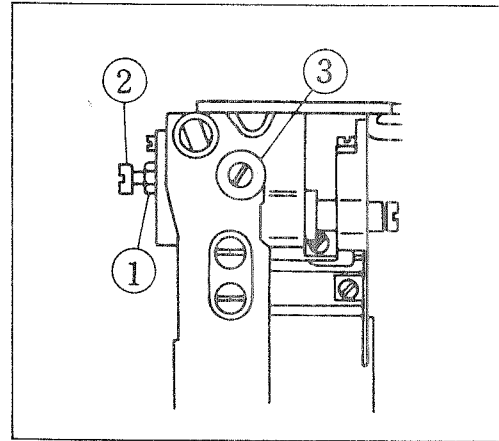

Fig. 16
- b) Adjusting the lower knife spring (slide stud spring) (Fig. 16).